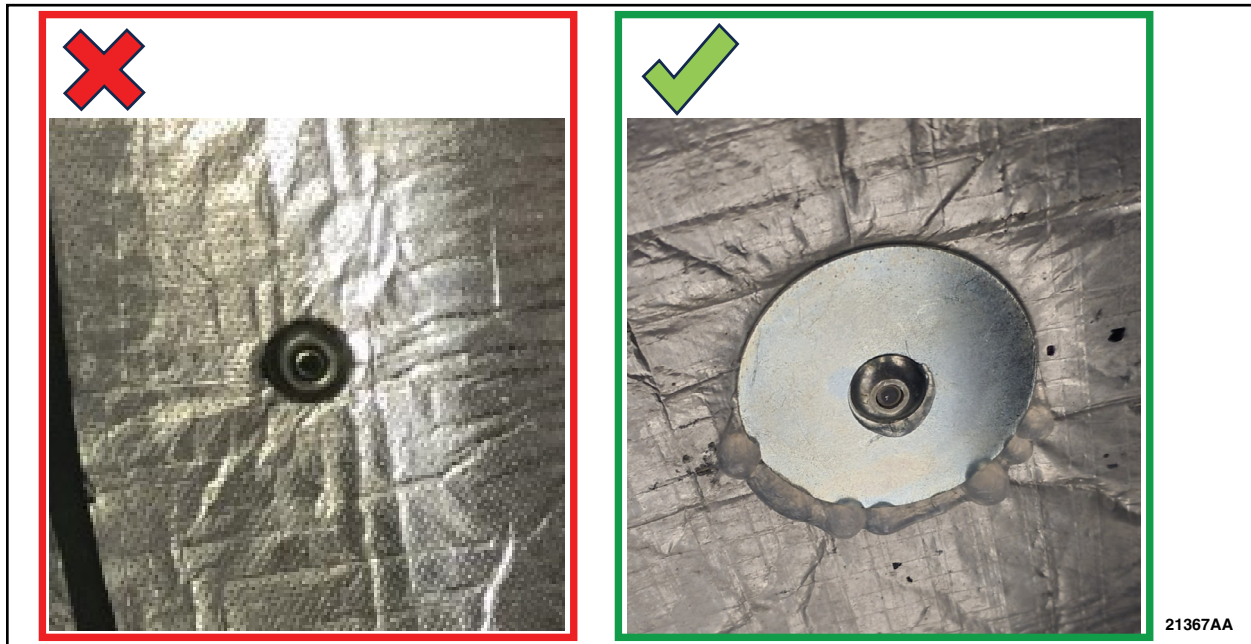

FIGURE 8
14. Using a M18-1/4" rivet gun, install the rivet and washer to the drilled hole. See Figure 8.